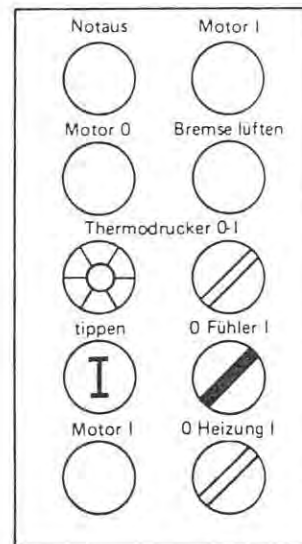

Fig. 120
17. Operate the machine by pressing the „Tip“ button (Figure 120) until the first inserted pouch is below the die of the filling station. Then, set the „Sensor“ select switch to „I“ (Figure 120).